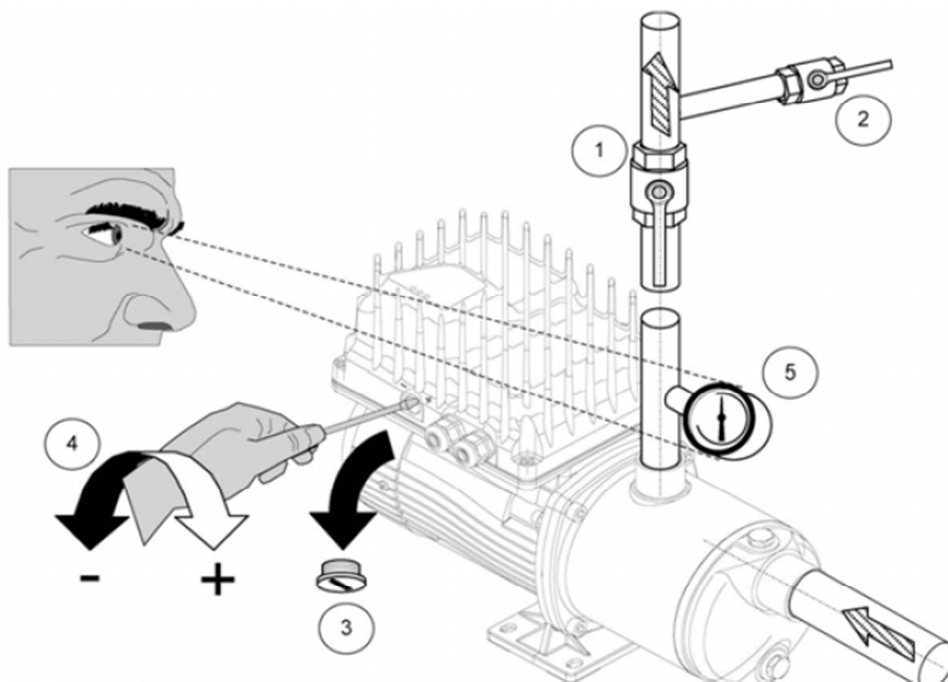

Fig. 2
To adjust the pressure head, remove the protection cap (indicated with ③ in fig. 2) and turn the adjustment screw clockwise with a screwdriver, in order to increase the pressure, or anticlockwise to reduce it.